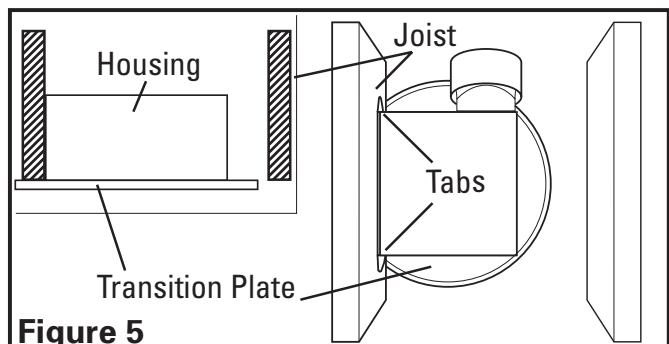
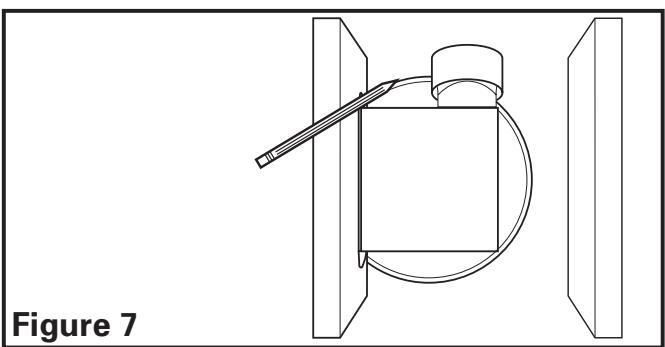

Figure 5
Figure 7
- 1b. **Mounting Tab Installation:** Position the fan so that the tabs rest flat against the joist with the transition plate flush to the underside of the joist. Secure with four nails or screws (not provided) to ensure proper installation (**Figure 5**).
- 1b. **Mounting Tab Installation:** Position housing against the joist and trace an outline of the housing onto the ceiling material (**Figure 7**). Set housing aside and cut opening, being careful not to cut or damage any electrical or other hidden utilities. Place housing next to the joist and insure that it is flush with the finished ceiling. Secure with four screws or nails (not provided) to ensure proper installation (**Figure 5**).